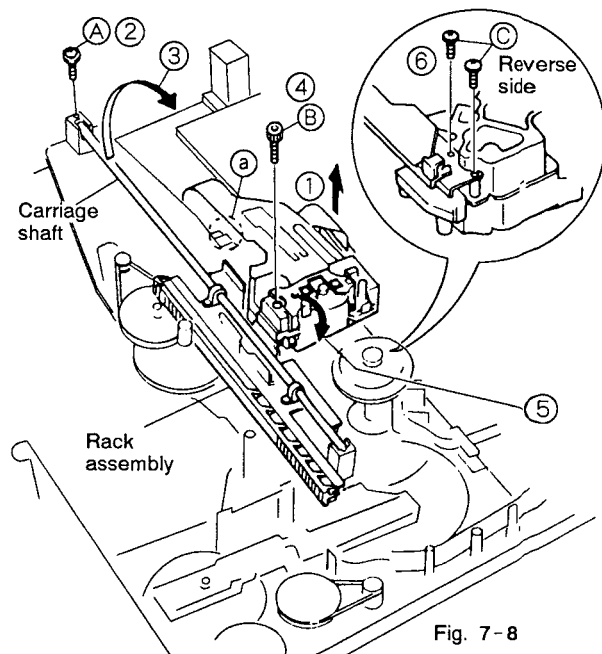

Fig. 7-8
7.6 REMOVING THE PICKUP ASSEMBLY (Fig. 7-8)
- ① Remove the flexible cable from the connector and also remove the flexible cable installed at section (a).
- ② Remove a screw (A) holding the carriage shaft.
- ③ Raise the shaft in the direction of the arrow to remove the rack assembly.
- ④ Remove a hexagonal screw (B) and lift up the pickup assembly lightly and turn the pickup assembly in the direction of arrow (5).
- ⑤ Remove two screws (C) on the back of the pickup assembly.